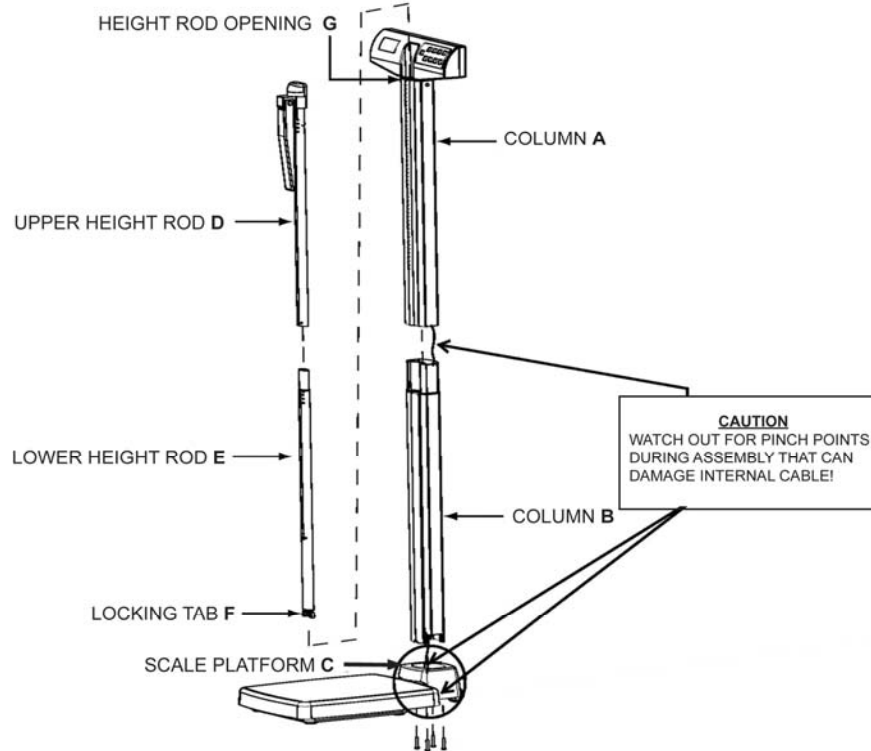

Figure 1
Assembling the 500KL Scale (Refer to Figures 1 - 11)
1. Carefully remove the scale platform **C** and columns **A** and **B** from the carton. Place the scale platform and columns on a flat, level, and dry surface (see Figure 1).
2. Remove the 4 small screws and washers from the bottom of column **B** (see Figures 1 & 2).
3. Locate cable connector inside column **A** (see Figures 1 & 3).
4. While holding column **A**, slide the cable connector through the top of column **B**. The top of column **B** has a notch (see Figures 1 & 5).
5. Plug the cable connector into the RJ jack, located on the scale platform **C** (see Figures 1 & 4).
6. Align column **A** and column **B**. Snap the locking tab into place. Ensure that the locking tab is locked securely into place (see Figures 1 & 5).
8. Insert the 4 small screws through the bottom of the scale platform **C** screw holes and into column **B**. Ensure that washers are located between the screw heads and the scale platform **C** screw holes (see Figures 1, 6, & 7).
9. Using a Phillips head screwdriver, tighten the screws to secure column **B** to the base of the scale platform **C** (see Figure 1, 6, & 7).
10. Locate the upper height rod **D** and lower height rod **E** from the carton (see Figure 1).
12. Position the bottom of the fully assembled height rod into the height rod opening **G** at the top of the upper column **A**. Press locking tab **F** inward to insert the height rod into the height rod opening **G** (see Figures 1 & 10).